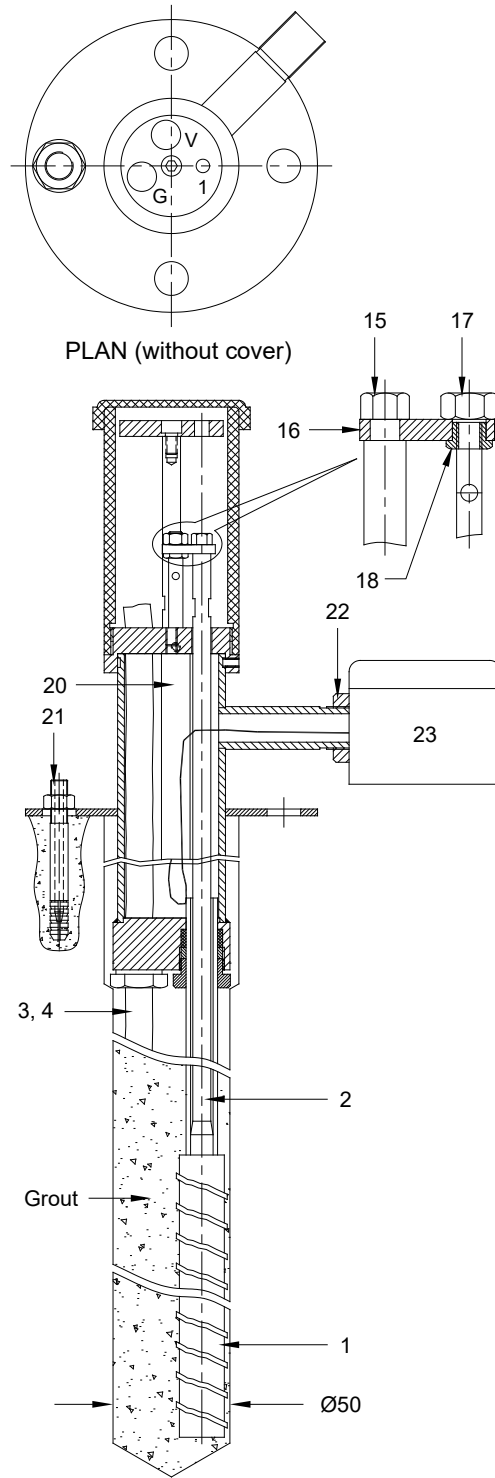

Figure 2.2 - Single point BHE detailed assembly
- Diameter of model EDE-PXX potentiometric sensor is 16 mm whereas diameter of Model EDE-VXX is 12.7 mm. This requires adaptor cum guide plate (6) and link plate (16) in figure 2.2 to be different in the two assemblies.